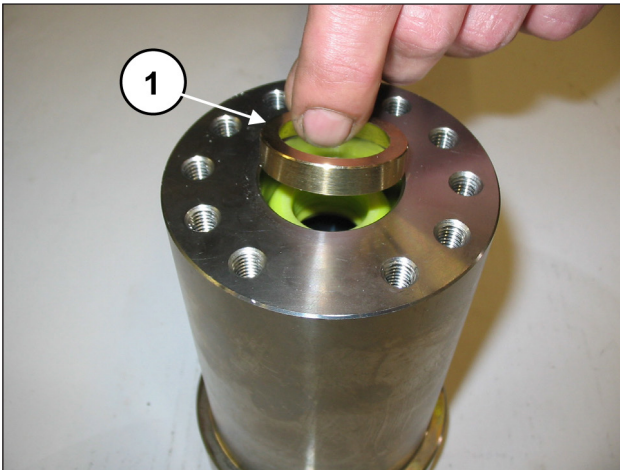
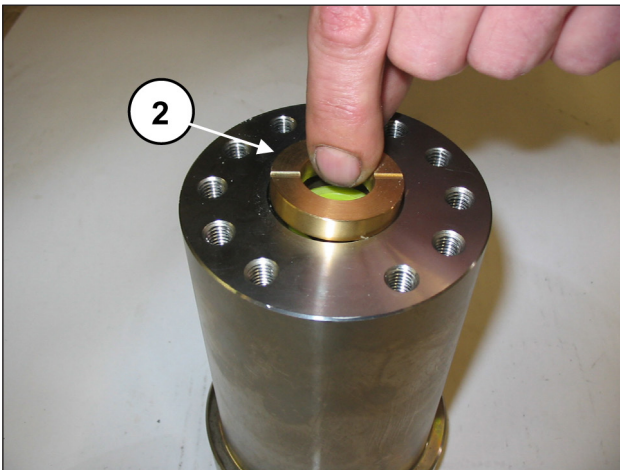
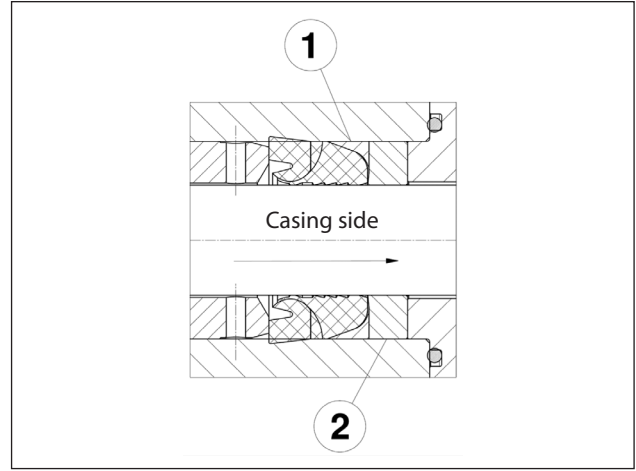

Fig. 136
Fig. 137
Fig. 138
Insert the anti-extruder ring and the seals bush (pos. ① and ②, Fig. 136, Fig. 137 and Fig. 138).
The gasket bush ② must be introduced into the liner with the two outlets facing outwards (casing side) as shown in Fig. 137.